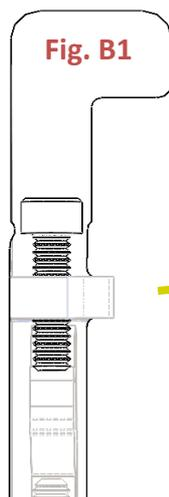

Fig. B1
- Option 1, if the TV is NOT INSTALLED**, there is insufficient weight to use the motors to extend the mechanism. Doing so will likely blow the two motor fuses. However, you can loosen the "Yellow" screws in each arm to the position shown in (FIG. B1) which will allow the arms to pivot forward as shown in Fig.B2. To do this, perform the following:
- Hold the mount firmly against the wall (pushing near the top) while loosening the "Yellow" screw from the Left and Right arms to the position no less than shown in Fig. B1
**FIG. B1** - Shows the position the yellow screw needs to be in to release the arm assembly allowing it to pivot forward so you can access the cable routing pathway. Do not operate the motors when the mechanism is in this position.